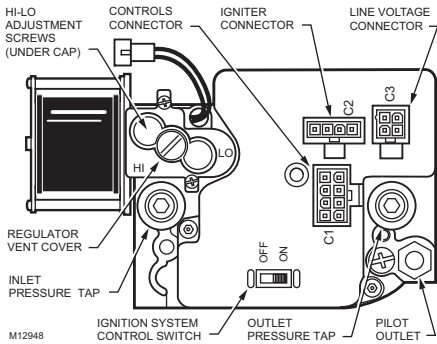

Fig. 4. Top view of SV9 series of two-stage combination gas controls.
4. With main burner operating, check the gas control flow rate using the meter clocking method or check pressure using a manometer connected to the outlet pressure tap on the control. See Fig. 4.
- a. Remove the pressure regulator adjustment cap (Fig. 4).